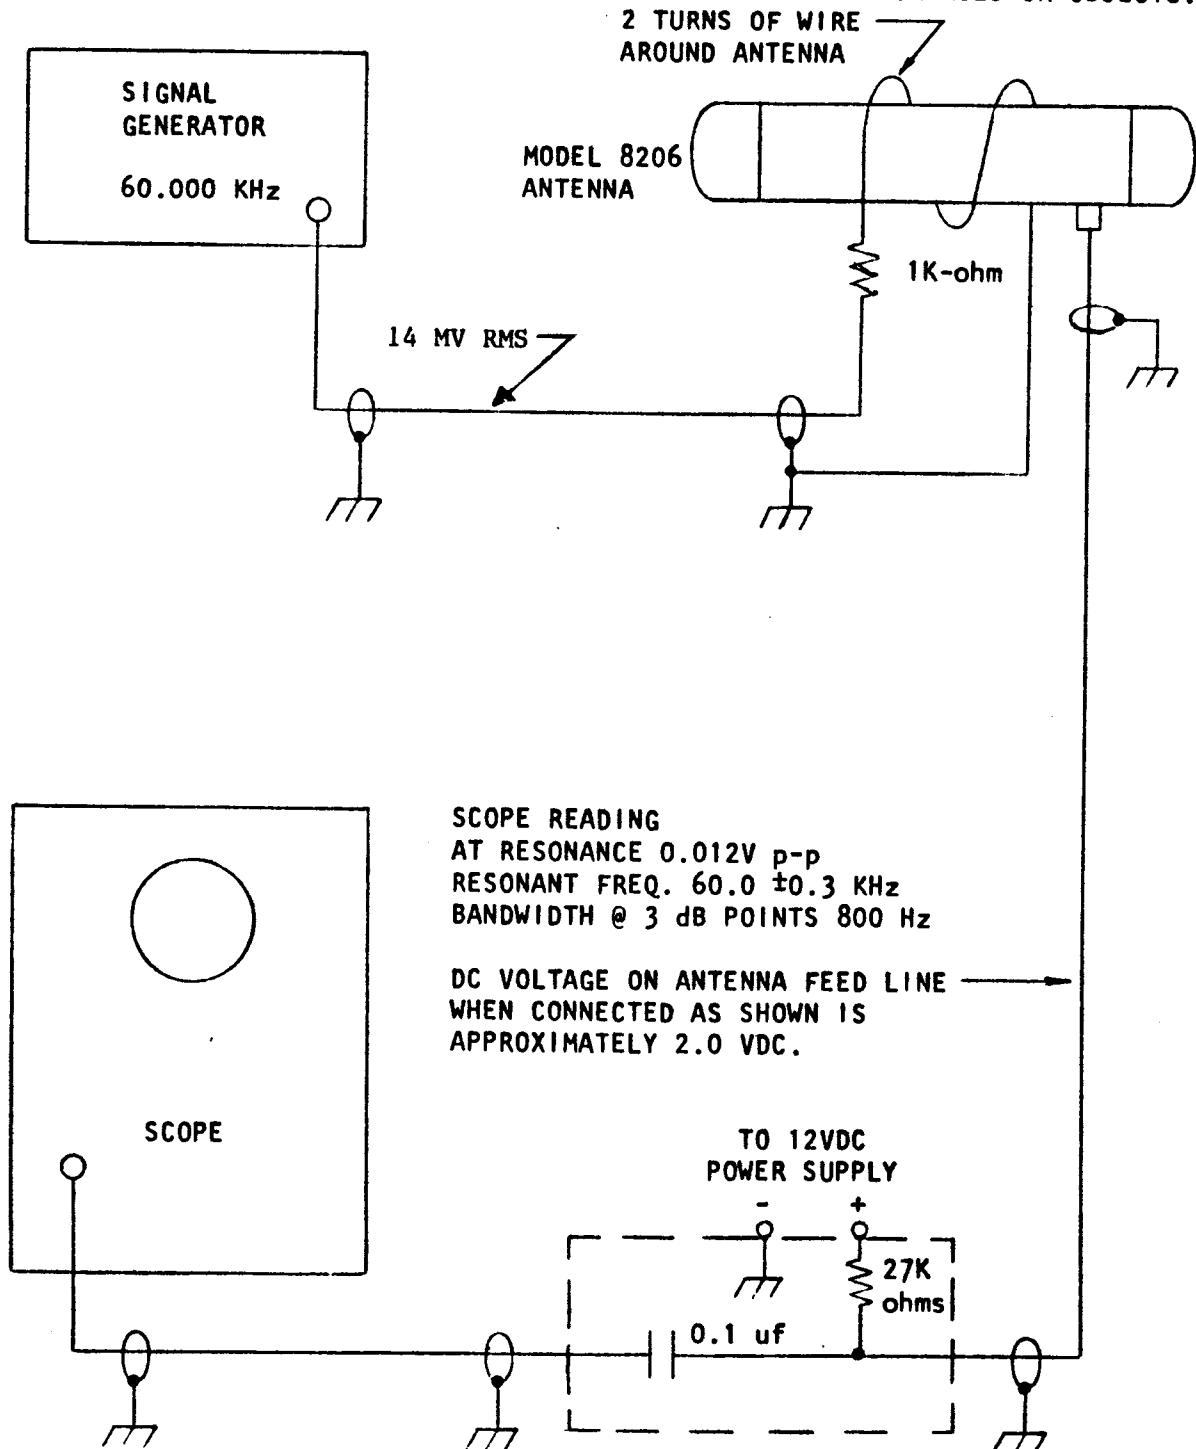

FIG. 3-4 ANTENNA MODEL 8206 TEST SETUP
3.3 ANTENNA (Model 8206) TEST PROCEDURE (Fig. 3-4)
2. Wrap 2 turns of wire around the antenna. Connect one end of the wire to the coaxial cable shield. Connect the other side to a 1 K ohm resistor. The other side of the resistor is connected to the center conductor of the cable as shown in Figure 3-4.